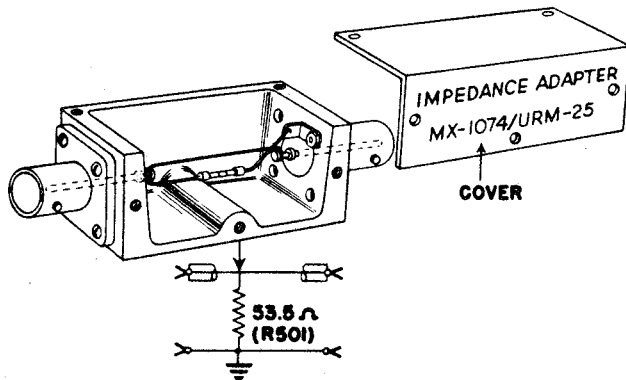

Figure 2-9. Impedance Adapter MX-1074/URM-25
f. When the 53.5 ohm cable assembly (W-104) is plugged into the X MULT RF OUTPUT jack (J-102), and terminated properly (53.5 ohms), no standing waves will be present. An IMPEDANCE ADAPTER MX-1074/URM-25 consisting of a 53.5 ohm composition resistor (R-501) contained in a rectangular aluminum case (See figure 2-9) is supplied with the equipment. This unit has one UG-185/U connector at each end and is inserted between the receiver under test and the receiver end of cable W-104 when the receiver load impedance is at least ten times the generator output impedance (i.e. approximately 500 ohms).